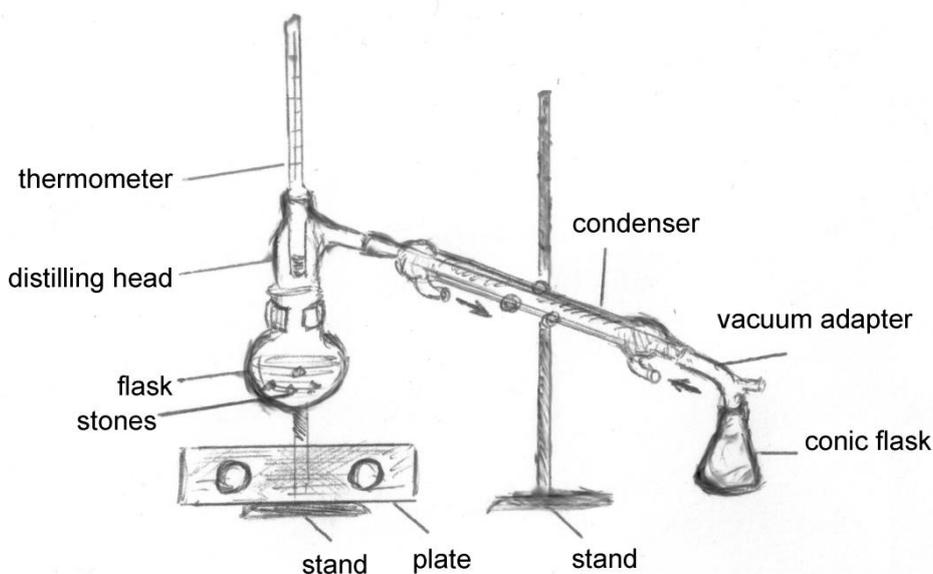

Fig. 1. Installation for simple distillation
A typical assembly of apparatus for simple distillation is shown in Fig. 1. A system of this type will not give a clean separation of liquids with a boiling point (b.p.) difference of less than c.  $50-70^{\circ}\text{C}$ . If it is used for a mixture where the b.p.'s are closer, then, the more volatile component will distil over first, it will be contaminated with the higher-boiling component even in the early stages of the distillation. But this method is the best for cleaning liquid from inorganic impurities and tar. The distillation flask is usually round-bottomed for large volumes and pear-shaped for volumes of 100 ml or less. Select a flask of a size such that it is no more **than two-thirds full at the beginning of the distillation**. The flask is connected to the condenser by a distilling head (Fig 1). The distilling head is connected to the condenser, then to vacuum adapter (allonge), and finally to receiving flask.
10. Connect the condenser to water according to the Fig 1, using glycerin grease.